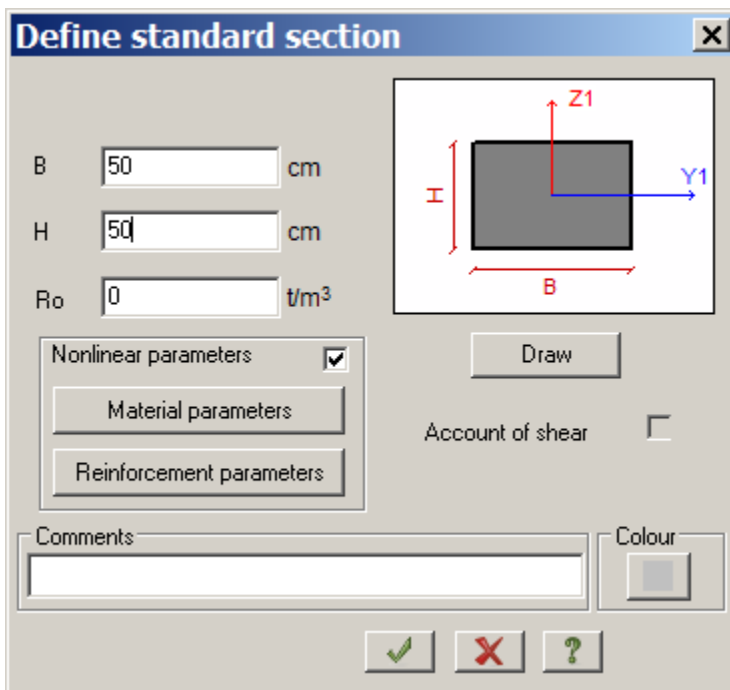

Figure 16.6 **Define standard section** dialog box
- ⇒ In the **Define standard section** dialog box, specify the following parameters for **Rectangular bar** (see Fig.16.6):
⇒ To define location and area of reinforcement, in the **Define standard section** dialog box (see Fig.16.6), click **Reinforcement parameters**.